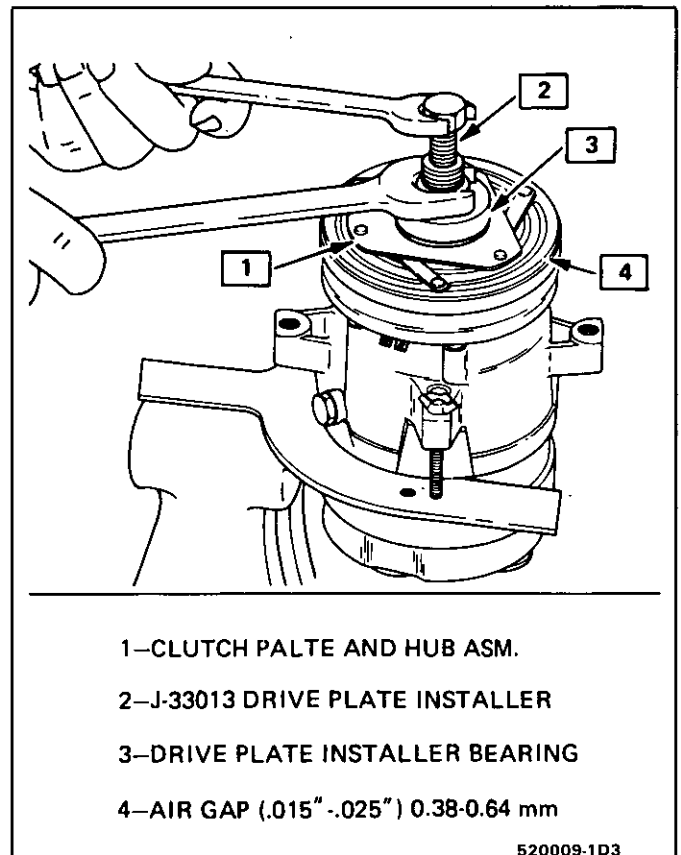

Fig. 9 Installing Clutch Plate & Hub Assembly
- Remove the J-33013 remover - installer center screw and reverse the body direction on the center screw as shown in Fig. 9.
- Install the clutch plate and hub installer J-33013 with bearing as shown in Fig. 9.